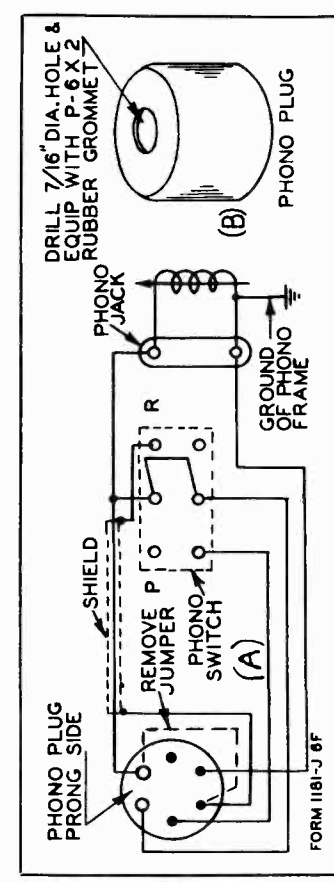

Fig. 13—Phonograph Connections
Two sets of accessories are supplied for phonograph connections for this model. One set is used when the phonograph is contained in a separate cabinet, and the other set is used when the phonograph and radio are in a combination cabinet. The electrical connections are the same in both cases and are illustrated in Fig. 13 (A). Parts required in either case are shown in the parts list in this manual.
First take off the shell of this plug by twisting the shell in either direction. The shell is then drilled and equipped with a rubber grommet as shown in Fig. 13 (B). Next unroll and remove the jumper wire from the plug as shown in Fig. 13 (A). Extend the leads through the hole in the shell and solder the leads to the prongs on the plug as illustrated. Complete the connections to the switch and tip jacks as a station. The switch is mounted on the motor board and the tip jacks at the nearest convenient place.